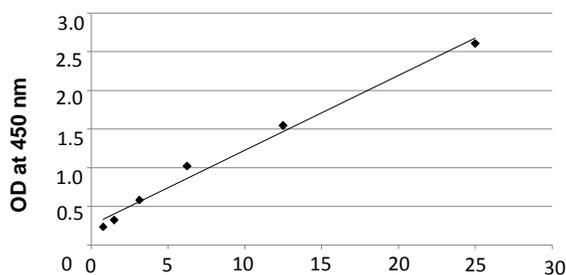
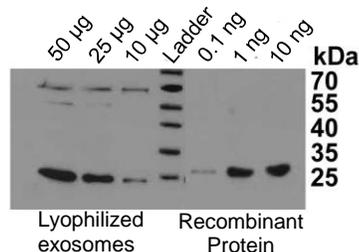

Figure 4: CD9 titration of plasma healthy donor exosome standards.
Figure 5: CD9 marker detection by Western Blotting on lyophilized exosomes from human plasma and the recombinant CD9 protein.
10. Sensitivity: The sensitivity of the ExoQuant™ was compared to Western blot. The data reported in Figure 4 and 5 demonstrate that the sensitivity of the ExoQuant™ is higher than that of Western blotting. Figure 5 shows that 10 µg of lyophilized exosomes is equivalent to 0.1 ng of recombinant exosomal protein (CD9). Since the standard curve's lower concentration is 0.39 µg of lyophilized exosomes (Figure 4), the sensitivity of our test is around 39 pg of protein equivalent.